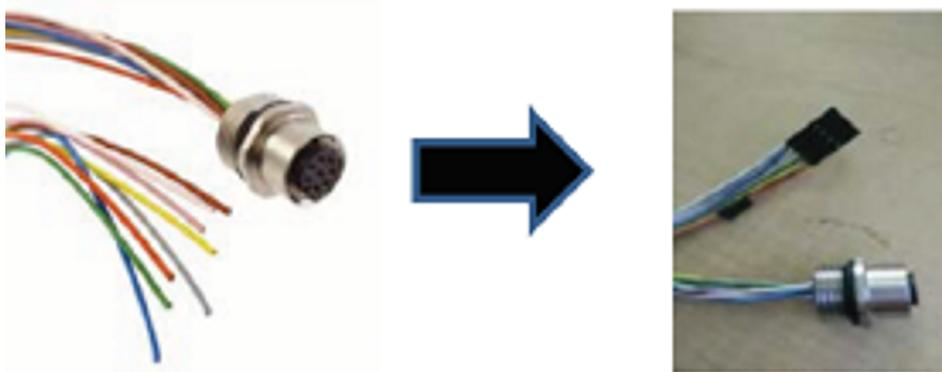

Figure 10. Adapter to Connect Heidenhain Cable to TIDM-1008 Board
- a. Prepare an adapter to connect the Heidenhain cable to the IDDK EnDat interface using the circular 8-position female to wire leads adapter (refer to the BOM for the header used for the encoder connector—J7). Refer to Figure 10.